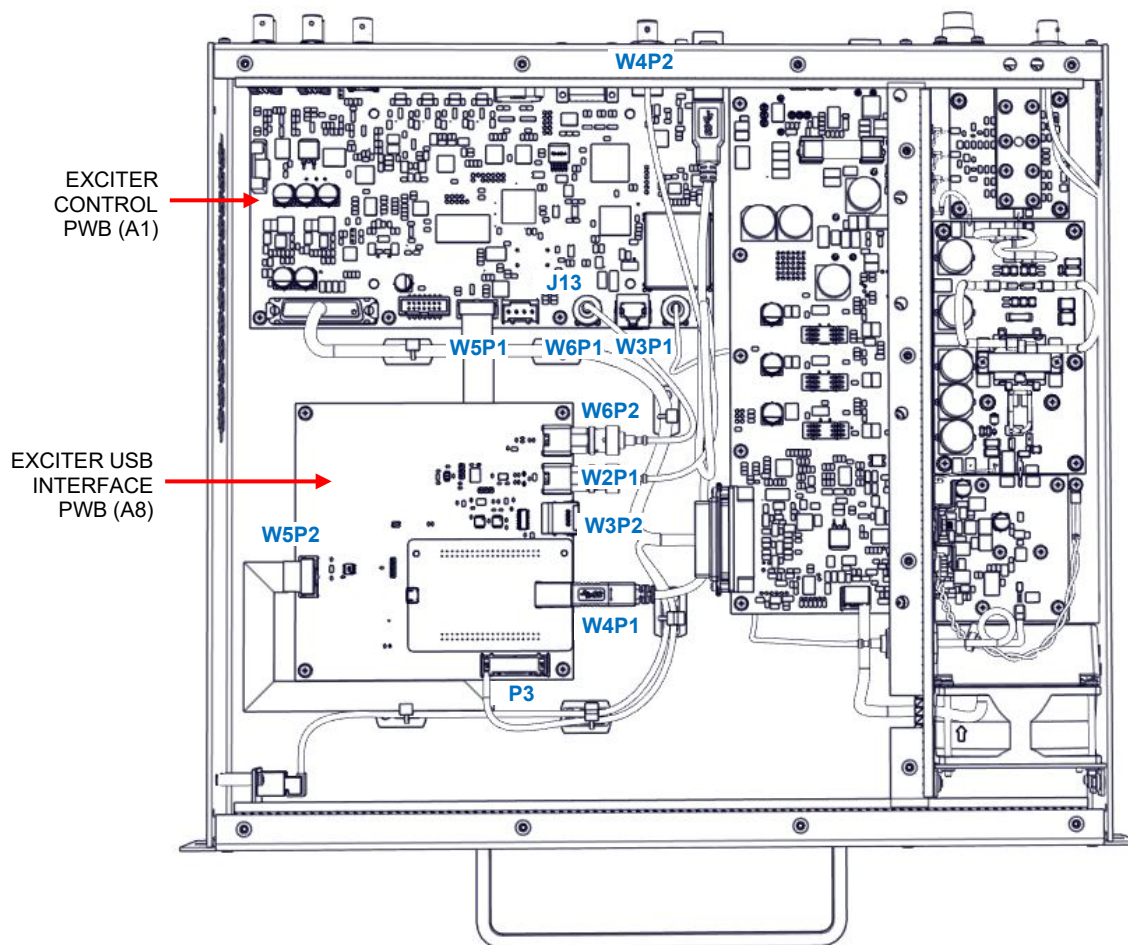

Figure 3: Exciter Top View, showing Exciter USB Interface PWB and cables installed
- (d) Install the exciter USB interface PWB on four (4) standoff pillars in the vacant position in the exciter. See Figure 3 to ensure proper orientation. Secure the exciter USB interface PWB using four (4) M3 screws from the Field Modification kit or retained from step (b), if applicable.
(b) For NAE107* (analog) exciters, install cables from the Field Modification kit as follows (see Figure 3 to locate connection points):
(c) For NAE107*/01 (digital) exciters, install cables from the Field Modification kit or reconnect existing cables as follows (see Figure 3 to locate connection points):
- For NAE107* (analog) exciters, P3 has been tied back to the chassis and W2P1 is connected to J13 of the exciter control PWB (A1) (see Figure 3). Cut P3's tyrap as required and disconnect W2P1 from A1J13.
(b) Connect P3 to J5 of the exciter USB interface PWB. See Figure 3 for connector location.
(c) Connect W2P1 to J3 of the exciter USB interface PWB. See Figure 3 for connector location.